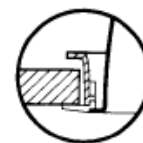

FIG. 1
1. For overlapping trim installation (Fig. 1), slip WHITE TRIM RING over REFLECTOR, as shown in Fig. 2 and 3.